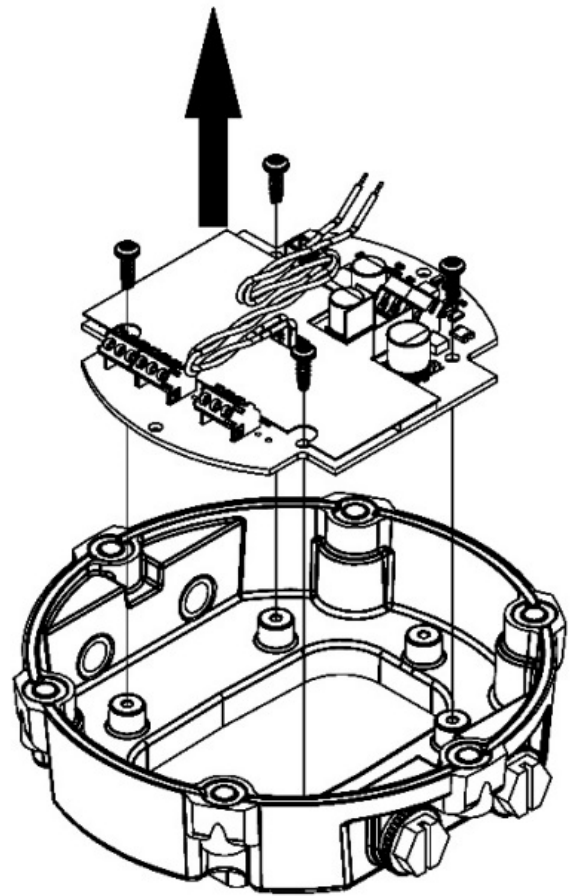

Figure 12
- Flip the cover plate over and remove (4) screws retaining the PC board assembly (see Figure 12).